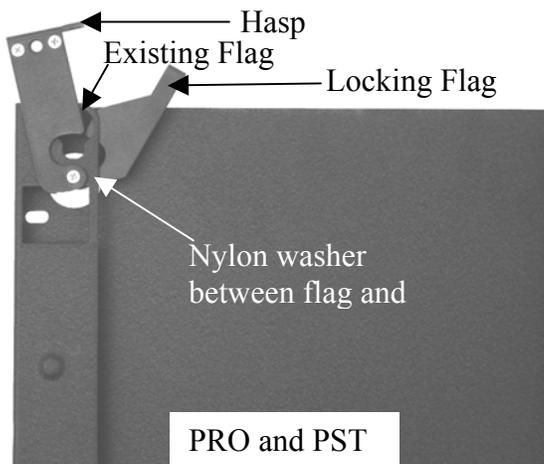

Figure 2
2. Using #10-24 screw, #10-24 nut, and Nylon washer, attach lock hasp to existing latching flag (see Figure 2).
3. Place Nylon washer and existing flag, with lock hasp attached, on top of mount as shown in Figure 2.
4. Place locking flag on bottom of mount as shown in Figure 2.